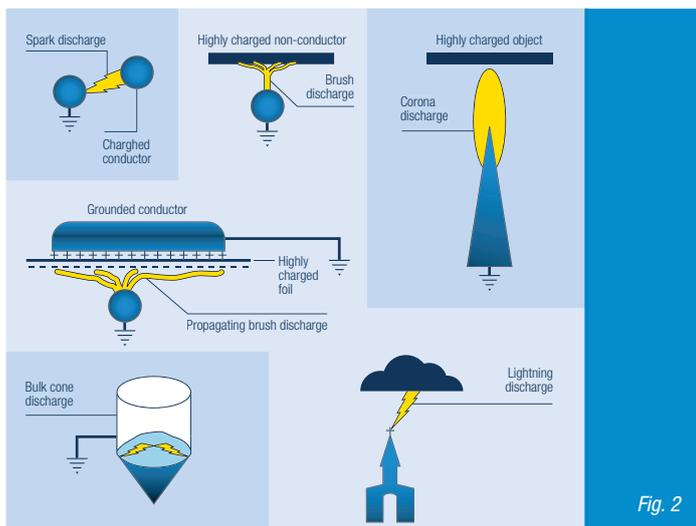

Fig. 2
*An overview of the various types of discharges is shown in fig. 2.*